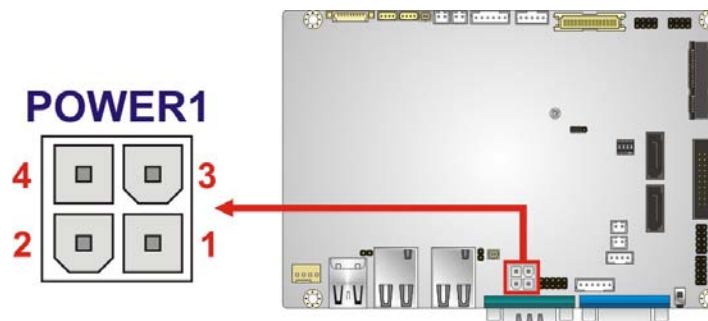

Figure 3-3: +12V DC-IN Power Connector Location
- CN Location: See **Figure 3-3**